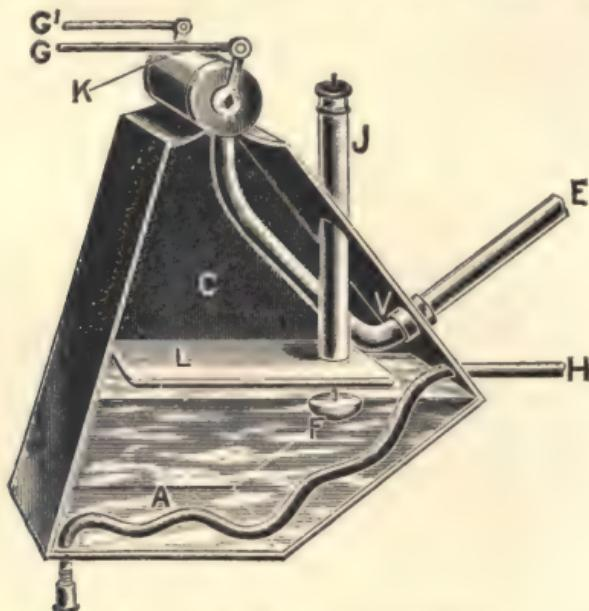

Fig. 7.—The De Dion Carburetter
(1) *The Surface Carburetter*, as used on the De Dion Motor Cycle.—This carburetter is so designed as to give a considerable surface of spirit, off which the vapour rises, and together with a certain quantity of air is sucked into the mixing chamber, which is commonly known as the twin tap. In this mixing chamber the proper proportions of air and gas are finally regulated so as to give a perfect mixture. Fig. 7 explains the construction of the carburetter.
a is the upper part of the carburetter, corresponding to c in fig. 7. b is the aperture through which the crude vapour ascends into the twin tap, passing through the wire gauze c *en route*. d is an aperture on top of the twin tap, through which the ordinary air enters. By the suction of the engine this crude vapour and air are drawn into r', and, mixing as they go, enter r, and so into the pipe e, and thence are drawn into the combustion chamber of the engine. As already mentioned, the lever g' operates the cylinder r', through which circular holes are cut, to admit the crude vapour and air. When the lever is in a certain position nothing but crude vapour is admitted to r'. By operating it, however, the air inlet d is gradually opened, and at the same time the vapour inlet b is gradually shut, thus regulating the quality of the mixture, or in other words the relative proportions of air and crude vapour. Similarly the lever g, operating the cylinder r, either opens or closes the aperture f, thus regulating the quantity of mixture which passes from the mixing chamber to the combustion chamber.